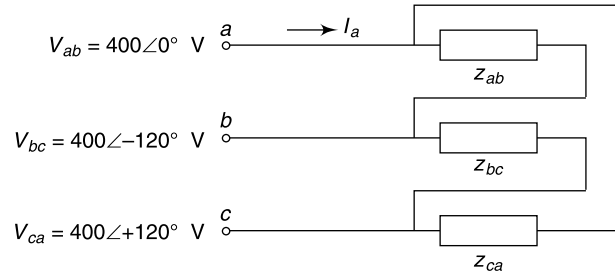

Fig. 4.24 Circuit of Ex. 4.46
4.46 Three impedances, Z_{ab} , Z_{bc} and Z_{ca} , are connected across a balanced 400 V, 50 Hz, 3-phase supply. Find I_a (Fig. 4.24).